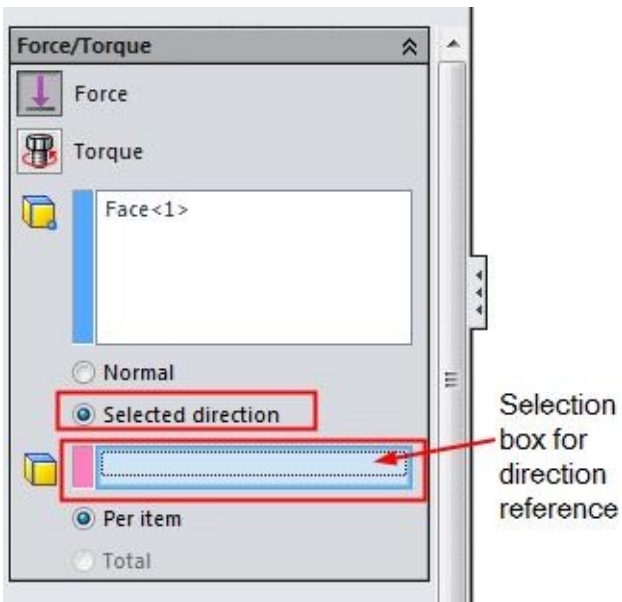

Figure-36. Force in selected direction
- To change the direction of force, select the **Selected direction** radio button from the **PropertyManager**. You will be asked to select reference for direction via a pink selection box; refer to Figure-36.